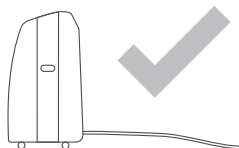
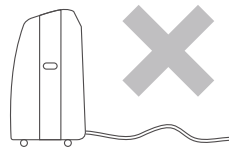

Fig. 20
Fig. 21
**NOTE:** Please make sure that the height and section of the Drain Hose is not higher than the Drain Outlet. If higher, draining of the water tank may not be successful (► Fig. 20 and ► Fig. 21).